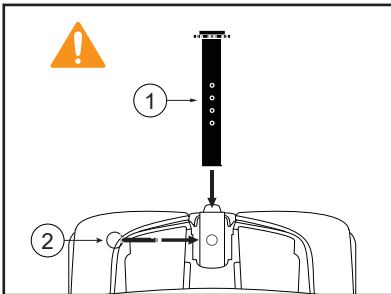

Figure 12
2. Change the seat post to the new position and refit the detent pin (see figure 12).